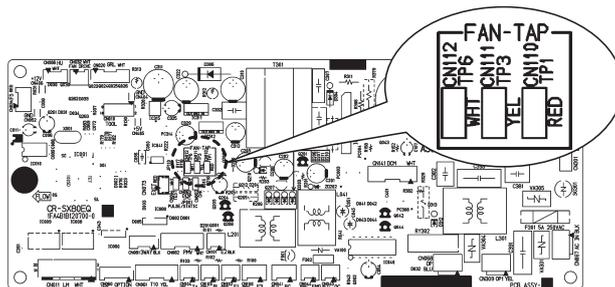

Fig. 5
- ① Open the electrical component box cover, then check the indoor unit control PCB. (Fig. 5)
- ② Connect the jumper connector (2P: yellow) which was supplied with the accessory to the correct connector pin on the indoor unit control PCB according to the setting number which was confirmed in Table for DC Fan Motor Tap Settings.